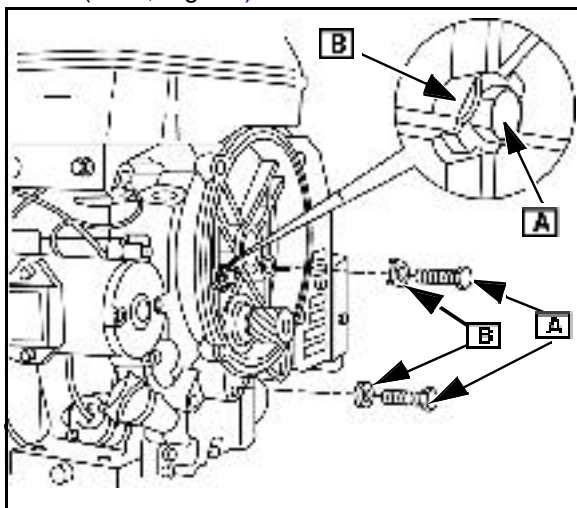

Fig. 28
3. Bend one ear of locking plates against flat on screw heads inside gear housing, (Inset, Fig. 28).